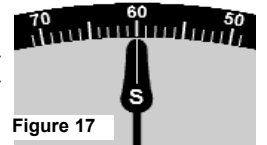

Figure 17
7. Read azimuth where the "S" end of needle points at the graduated circle. (Fig 17)